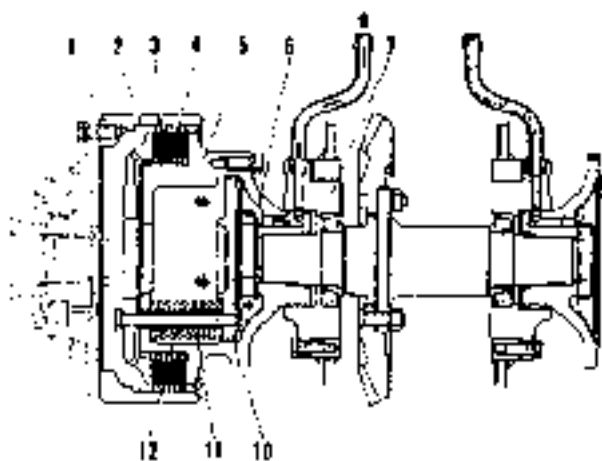

Fig. 2-28
When the oil pressure cut-off, the above parts under the force of large and small spring are forced to move in the direction as shown in the figure to make the clutch plates(4) be engaged with the friction discs and complete the power transfer(See Fig. 2-28).